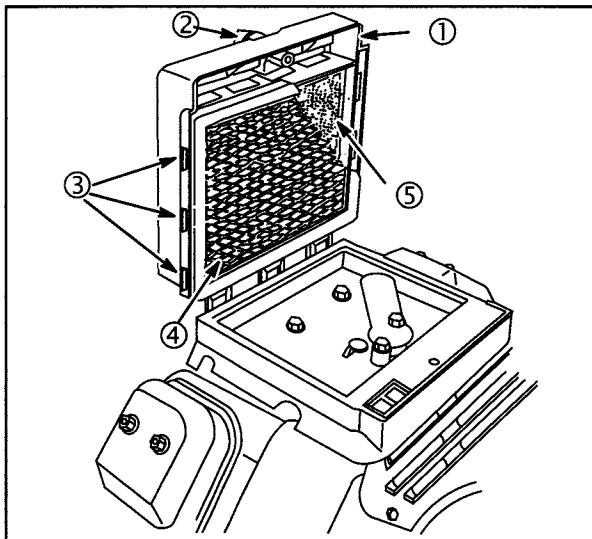

Fig. 3
1. Remove knob(s) (2) and cover assembly (1), **Fig. 3**.
7. Install paper cartridge in cover with tabs on cartridge (3) in slots of cover, **Fig. 3**.